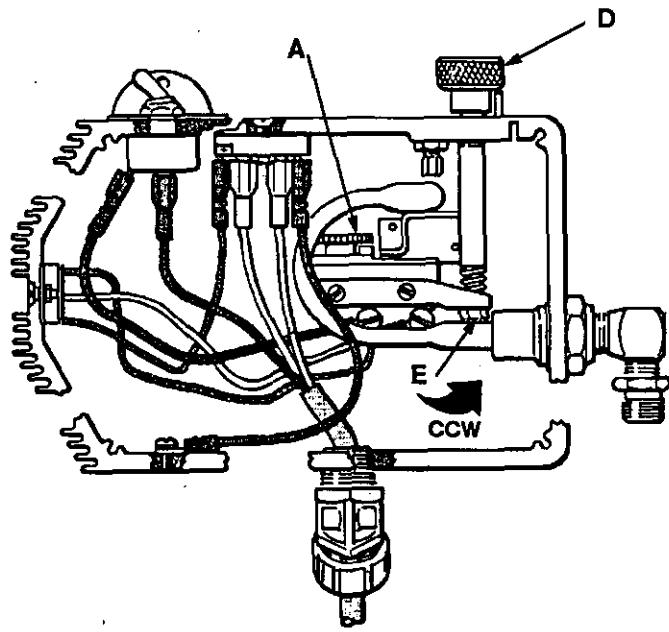

Fig 21-1
3. With the gun safety latch engaged, start the engine (only). Use of 3/8" ignition wrench to turn the pressure adjusting nut (E) *clockwise* two full turns. See Fig 21-1. Turn the pressure control knob (D) to the minimum setting. Turn the sprayer switch ON.